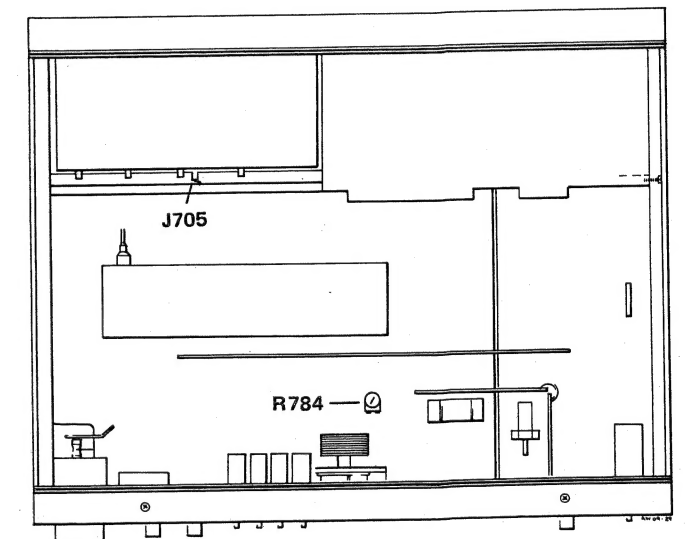

Figure 11 Dial pointer adjustment
- Connect voltmeter to J705 (main board, see figure 11).